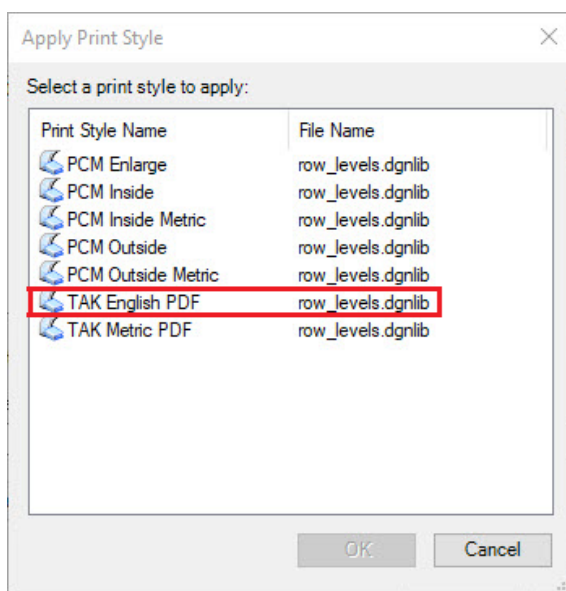

Figure 24 “Print Style Name”
Step 6. Double Click either TAK English or TAK Metric (Figure 24 below)